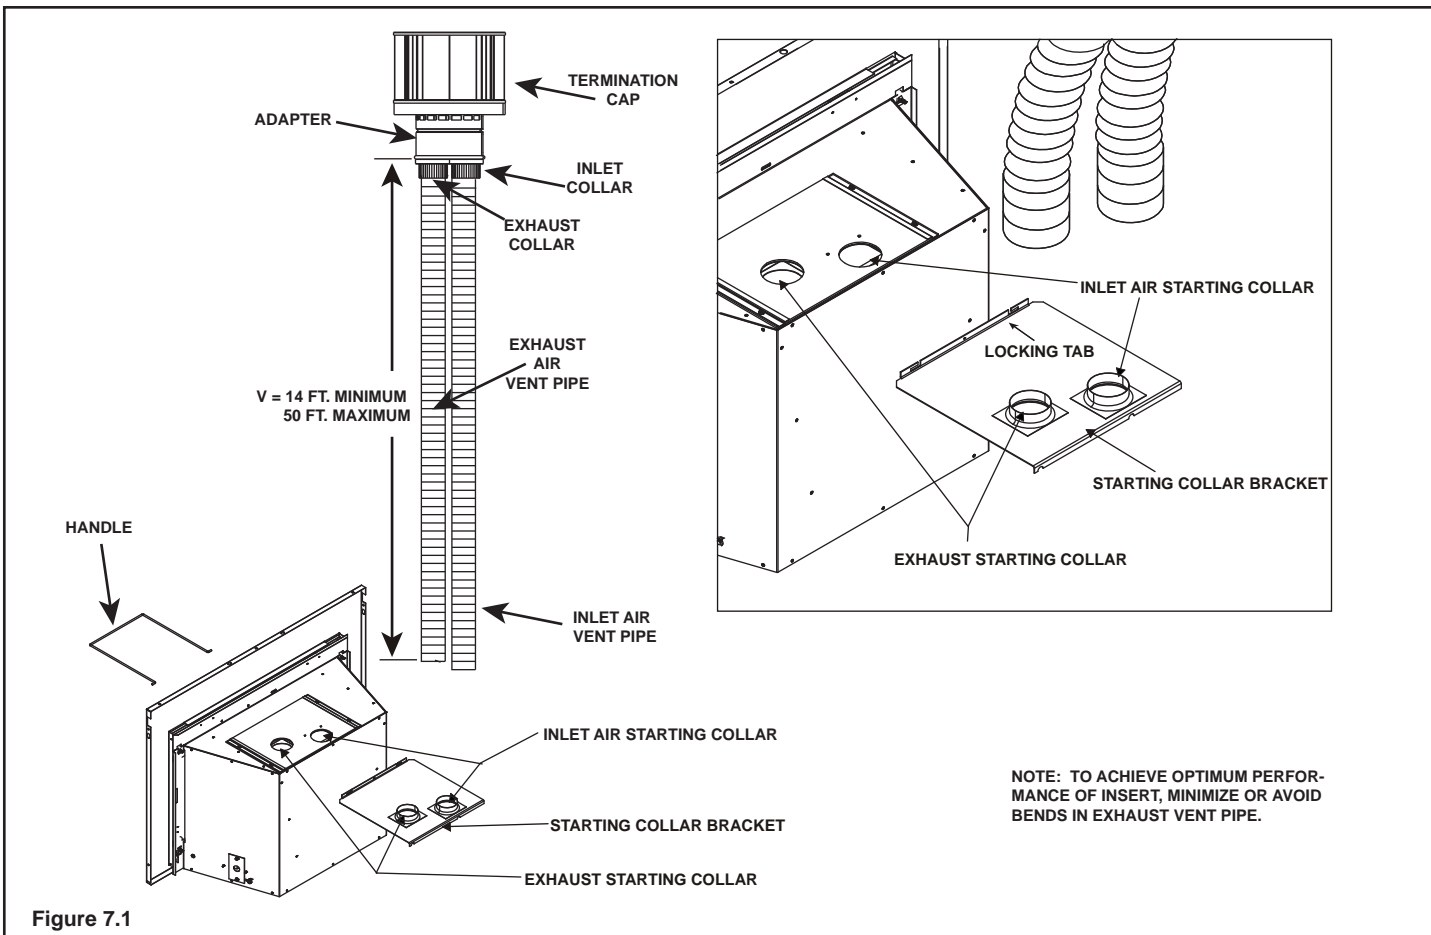

Figure 7.1
- Secure the exhaust flexible vent pipe to the exhaust starting collar on top of the appliance with three screws. See Figure 7.1.
- Use 3 screws to attach the section of inlet air vent to the inlet collar on the collar slide plate. See Figure 7.1. NOTE: The collar slide plate may be removed from appliance to aid installation.
- Secure collar slide plate to appliance by placing locking handle into position with locking tabs (see Figure 7.1) and secure with #8 screw.